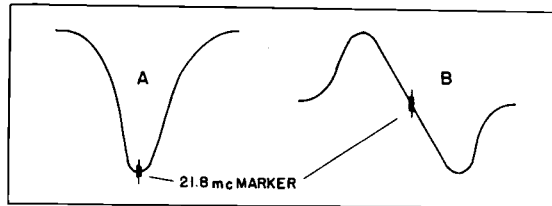

Fig. 10. Audio I-F Curves
1. Sound I-F Alignment—The sweep generator is connected through a 500 mmf. capacitor to the grid of the tube preceding the sound i-f coil to be aligned. Connect the oscilloscope through a 100,000-ohm resistor across the resistor, R104, in the limiter tube, V18 grid. Insert a 21.8 mc marker signal from an unmodulated signal generator into the grid of V3. Keep the marker signal attenuated so that it just shows a marker on the sweep curve. Adjust L21 and L5, respectively, as you advance progressively one stage at a time, for maximum gain and symmetry of the response curve about the 21.8 mc marker. The curve should be similar to that shown in Figure 10-A. With input at the first audio i-f, V22, the bandwidth should be approximately 300 kc at the 70% response point.
For discriminator alignment, the secondary core of the discriminator transformer, T19, is aligned by using a tone modulated 21.8 mc amplitude modulated signal and listening to the tone at the loudspeaker. This adjustment is made for a minimum tone signal output. Apply the signal generator input to the grid of V22. If the sweep is used for the secondary alignment, the cross-over should be symmetrical about a 21.8 mc marker and should be a straight line between the alternate peaks, as shown in Figure 10-B. For the discriminator transformer primary alignment, connect the oscilloscope to the junction of C74 and R86. With the same sweep input as in Step 1, adjust the primary adjustment screw for a maximum peak-to-peak amplitude of the response curve, as shown in Figure 10-B.